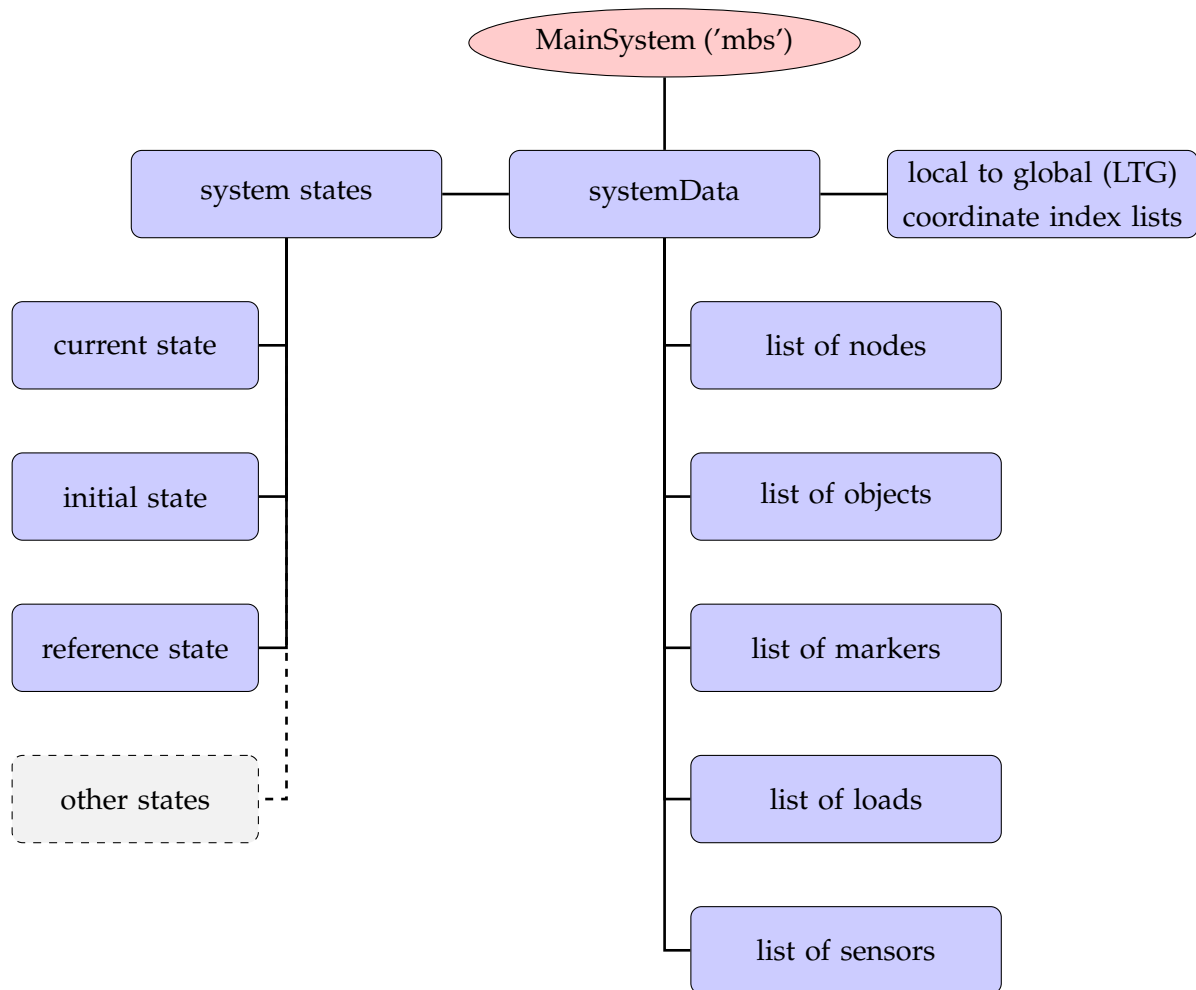

Figure 2.2: Overview of systemData, which connects items and states. Note that access to items is provided via functions in `system`.
- `mbs.systemData`: contains the initial, current, visualization, ... states of the system and holds the items, see Fig. 2.2